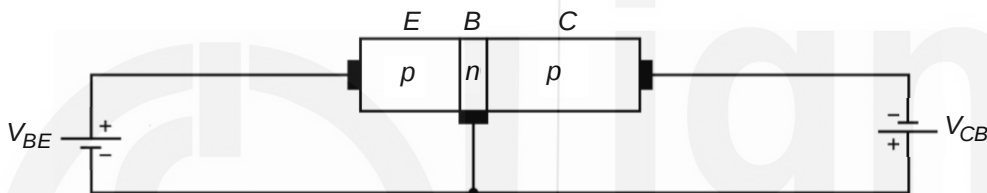

Fig. 3.18: A $p-n-p$ transistor when the emitter-base junction is forward biased and collector-base junction is reverse biased.
2. a) Fig. 3.18 shows the labelled diagram of the biasing of the $p-n-p$ transistor.